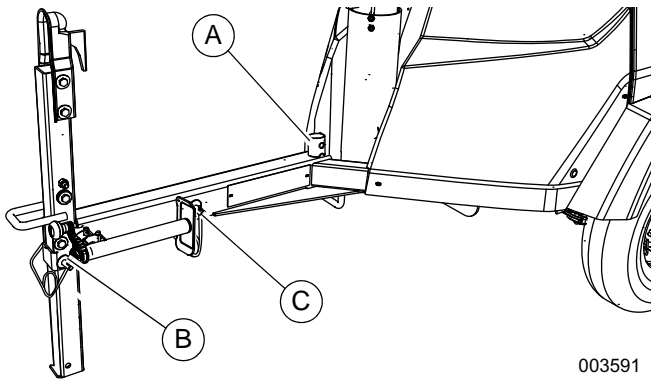

Figure 2-3. Jack and Pin Locations
NOTE: See Figure 2-3. Unit ships from factory with jack in the storage location (A).
5. See Figure 2-3. Remove pins (B) and (C).